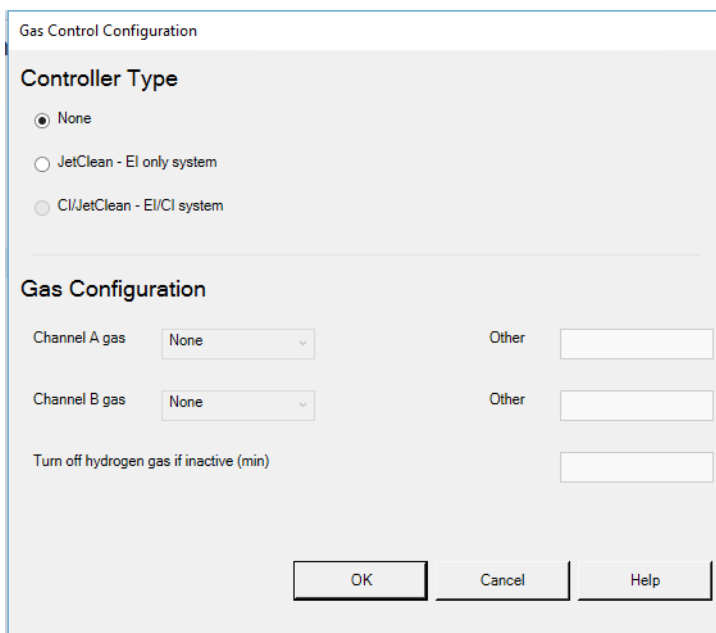

Figure 7. Controller Type - None
- 1 Select **None**. The channel A and channel B configurations options are set to **None** and cannot be modified. (See **Figure 7**.)